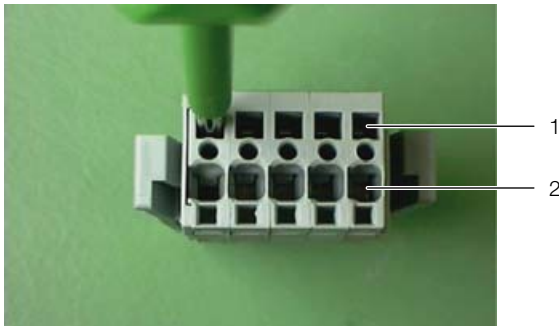

Fig. 63: Connector – rear
- Insert a suitable screwdriver (blade size 3.5 x 0.5 mm) into an activation opening (fig. 63, item 1) and open the corresponding terminal connection of the conductor entry (fig. 63, item 2).